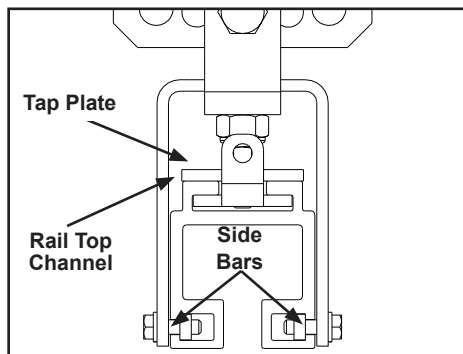

Figure 3-89
- Step 2. Insert safety cable through two (2) tab holes on tap plate and through a hole in the trolley plate.
- Step 3. Slide rail mounting bracket and the two (2) side mounting bars on the sides of the rail while also sliding the tap plate into top bracket channel at top of bridge rail. Position per system layout. See Figure 3-89.